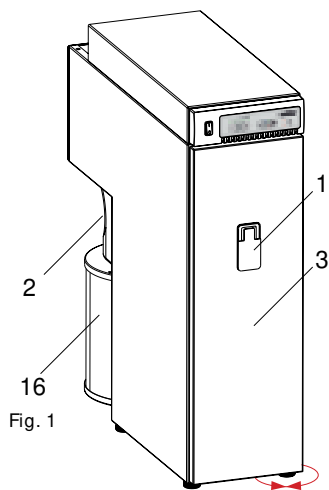

Fig. 1
- If necessary the unit can be leveled by turning the feet up/down (Fig.1).
- Plug in the muffle of the enclosed suction hose to the intake nozzle (2) and the other side firmly to your intake system.